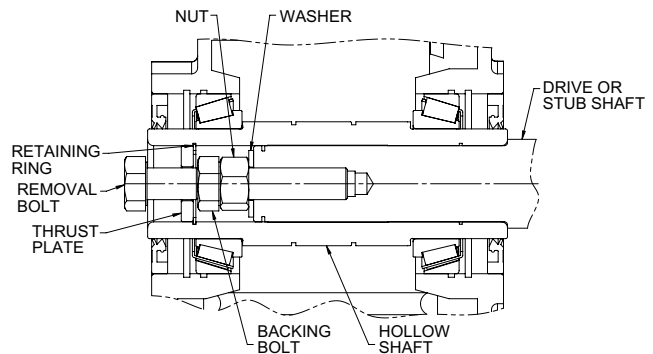

Figure 4
2. Install backing bolt, nut and flat washer into drive shaft as illustrated in Figure 4, Page 3 The head of the backing bolt provides a working surface for the removal bolt.